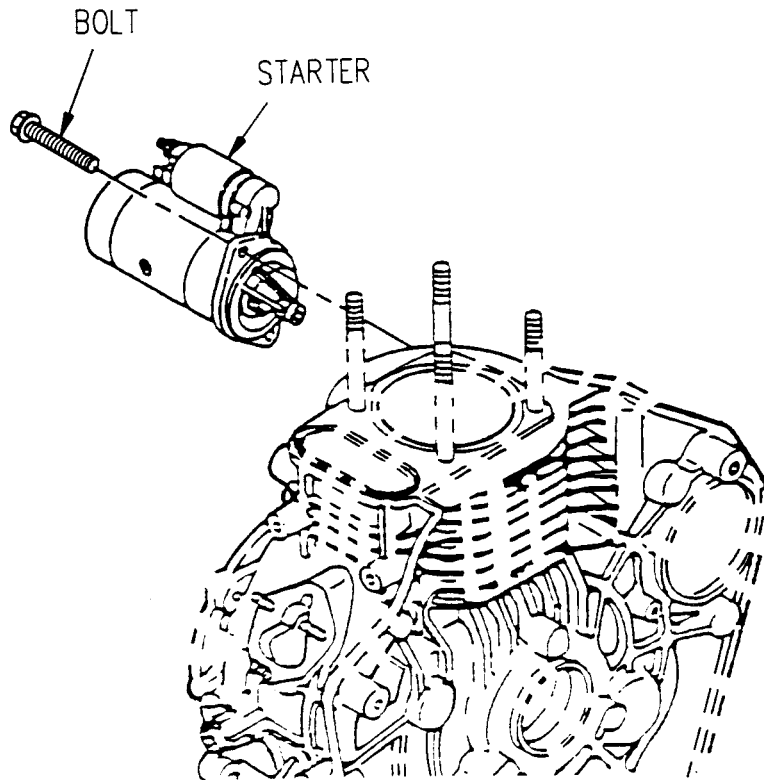

Figure 4-59. Starter Assembly
- (1) Shut down generator set.
- (2) Tag and disconnect electrical leads from starter assembly (Figure 4-59).
- (3) Remove bolts and starter from engine.
- (1) Install starter assembly (Figure 4-59) on engine with bolts.
- (2) Connect electrical leads and remove tags.
- (3) Check starter assembly for proper operation.